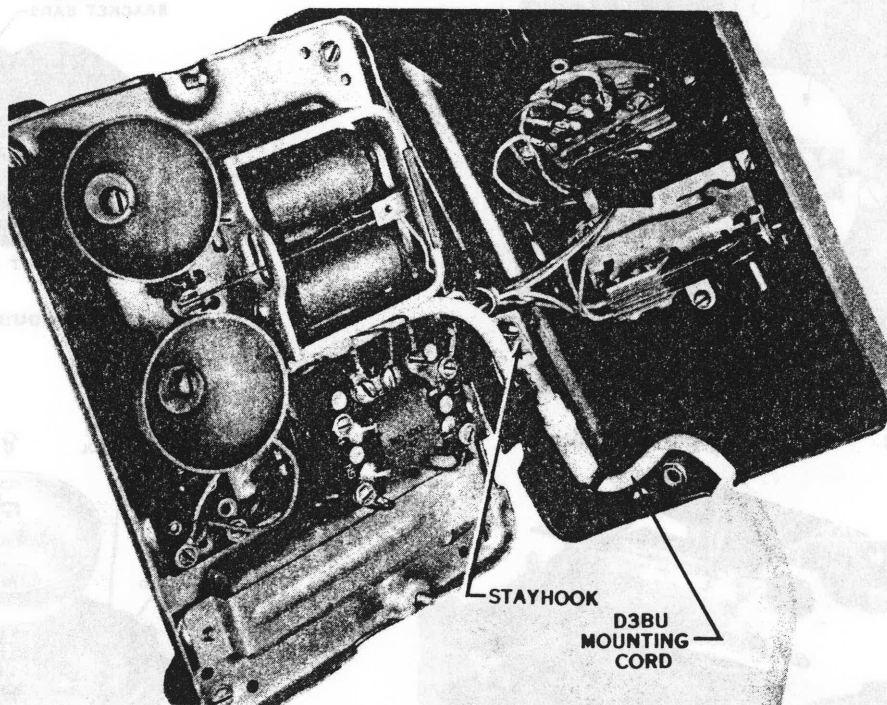

Fig. 19 — Installing D3BU Mounting Cord
3.13 When using the D3BU mounting cord (Fig. 19), fasten as follows:
- (1) Remove screw from stayhook fastener.
- (2) Place screw through hole in stayhook.
- (3) Replace stayhook fastener.
- (4) Dress cord as shown in Fig. 19.